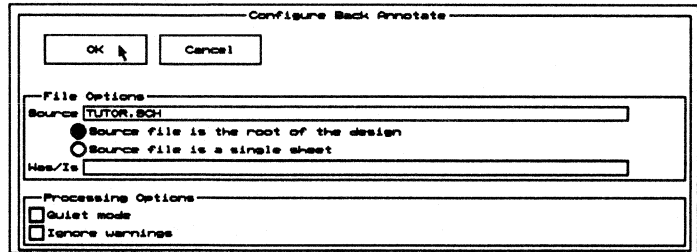

Figure 7-13. The *Configure Back Annotate* screen.
- Return to the **Schematic Design Tools** screen and select **Back Annotate**. Select **Local Configuration** and then **Configure BACKANNO**. The screen shown in figure 7-13 displays.